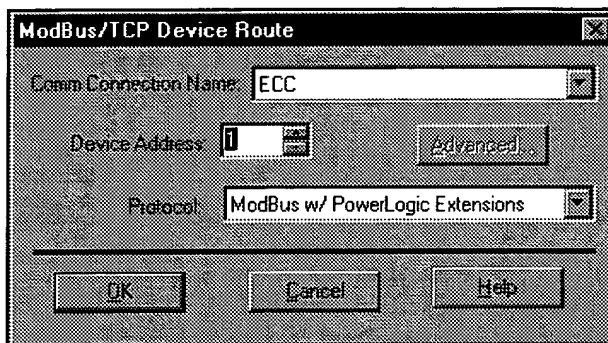

Figure A-6 MODBUS/TCP Device Route dialog box
3. Click OK and the MODBUS/TCP Device Route dialog box displays (Figure A-6). Enter information as follows: